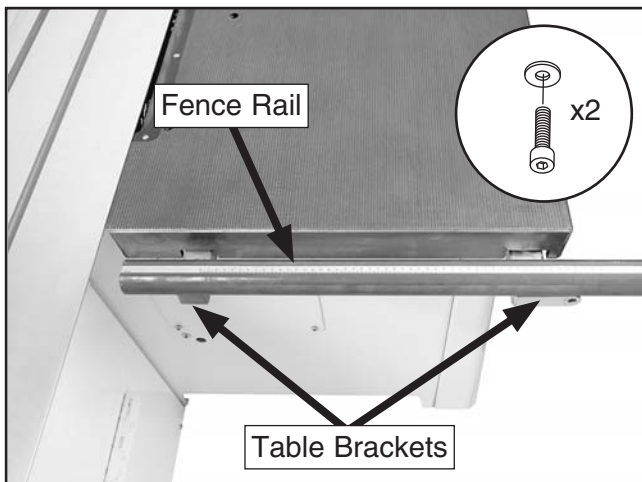

Figure 13. Rip fence rail.
2. Place the fence rail over the table brackets, align the holes, then attach the fence rail with the hardware removed in **Step 1** (**Figure 13**).